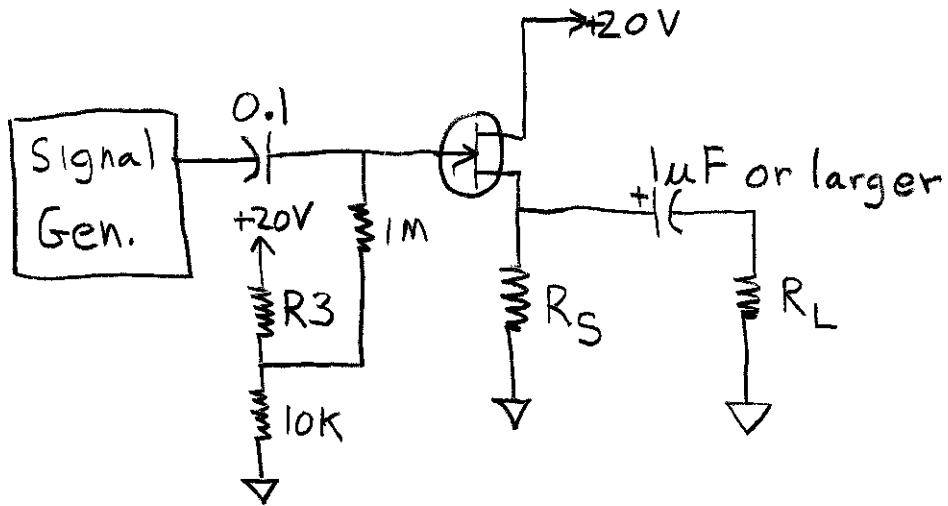

Figure 6
- 5.4 Refer to Figure 6 and connect the same load resistor as used in the previous part and measure the peak-peak signal across it. Compute the voltage gain of the amplifier and compare with the value from analysis. Using the voltage divider equation, compute the output resistance of the amplifier and compare with the theoretical value. Compute the power gain of the amplifier.